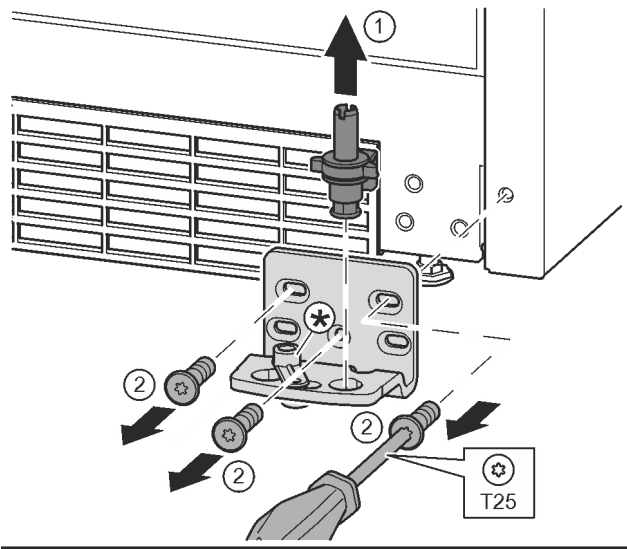

Fig. 14
- ▶ Lift the bearing pin completely upward and remove. Fig. 14 (1)
- ▶ Undo the screws with a T25 screwdriver and remove the bearing bracket Fig. 14 (2)